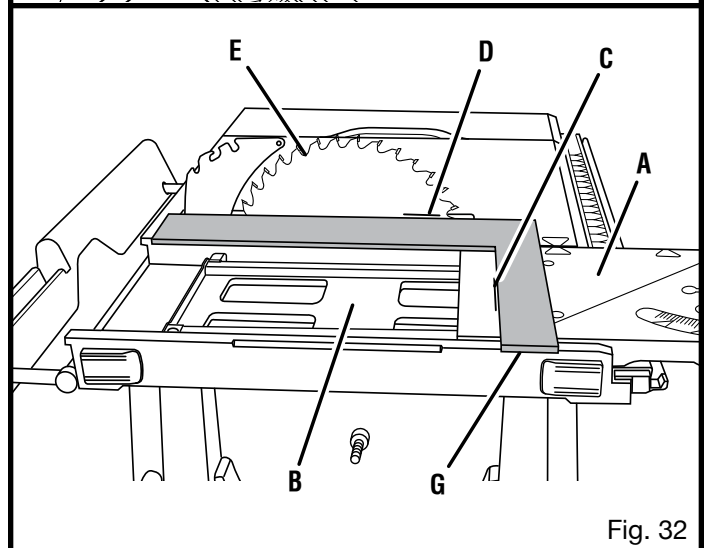

Fig. 32
See Figures 32 - 33.
- Slide miter table (A) to the front of miter base (B) as far as it will go. Place a reference mark (C) near the end of the miter table as shown in figure 32.